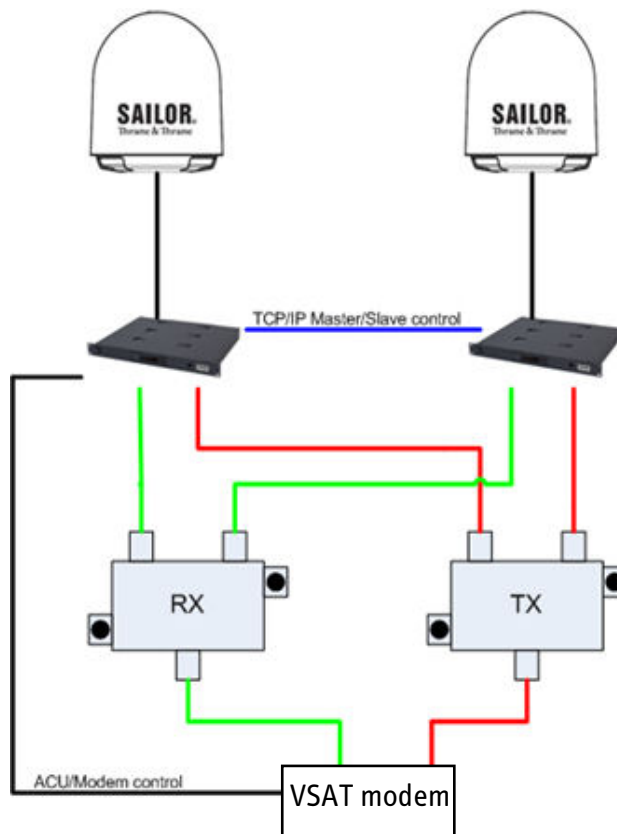

Figure 3-36: Dual mode antenna, overview
1. Install the master ADU, ACU, the RX combiner and the VSAT modem as shown in figure 3-36.